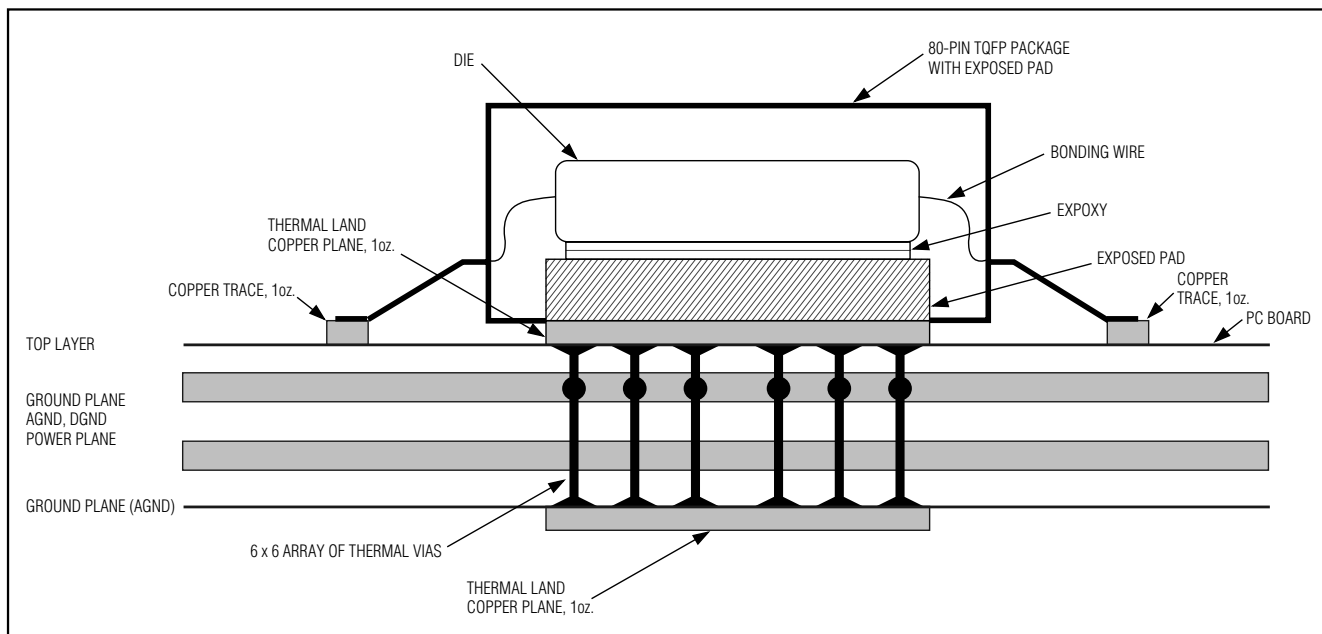

Figure 10. MAX107 Exposed Pad Package Cross-Section
tion-case (θ_{jc}) resistance of $\approx 1.26^{\circ}\text{C/W}$. In this package, the data converter die is attached to an exposed pad (EP) leadframe using a thermally conductive epoxy. The package is molded in a way, that this leadframe is exposed at the surface, facing the printed circuit board (PC board) side of the package (Figure 10). This allows the package to be attached to the PC board with standard infrared (IR) flow soldering techniques. A specially created land pattern on the PC board, matching the size of the EP (7.5mm x 7.5mm) does not only guarantee proper attachment of the chip, but can also be used for heat-sinking purposes. Designing thermal vias* into the land area and implementing large ground planes in the PC board design, further enhance the thermal conductivity between board and package. To remove heat from an 80-pin TQFP package efficiently, an array of 6 x 6 vias ($\leq 0.3\text{mm}$ diameter per via hole and 1.2mm pitch between via holes) is required.